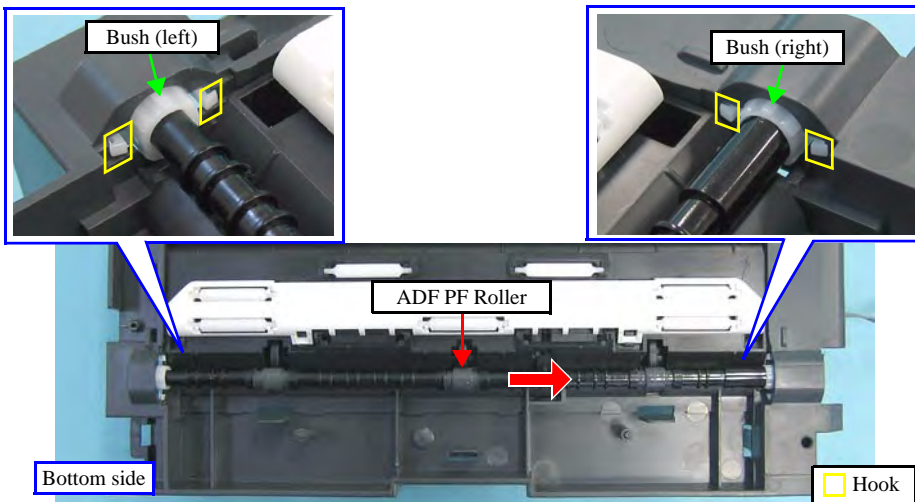

Figure 4-135. Removing the ADF PF Roller (2)
1. Attach the bush (left) to the ADF Base, and secure it with the hooks. (See Figure 4-135.)
2. Insert the ADF PF Roller into the ADF Base, and secure it to the bush (left). (See Figure 4-135.)
3. Attach the bush (right) over the ADF PF Roller, and secure the bush to the ADF Base with the hooks. (See Figure 4-135.)